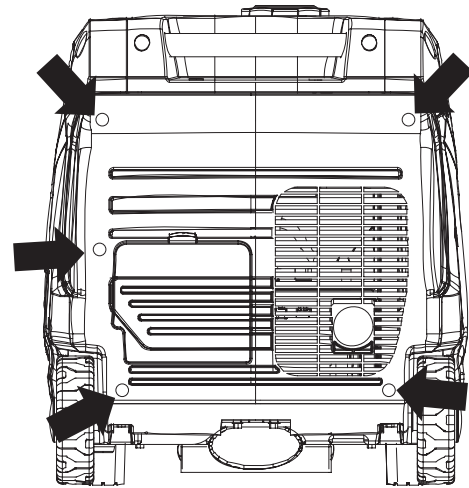

Figure 18: Remove Muffler Access Panel
3. Remove the screws holding the muffler cover in place (see Figure 18).